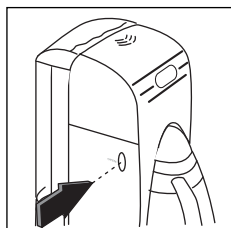

fig. 6
- Open the filter holder by rotating towards the left (fig. 6).